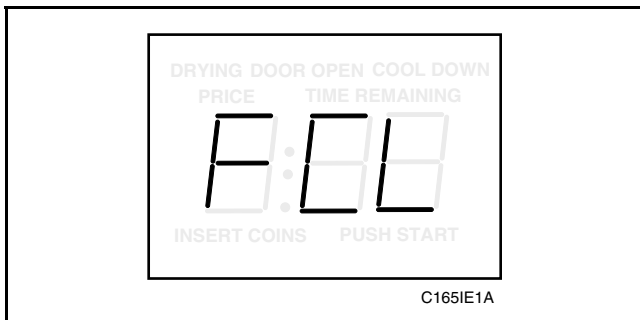

Figure 65
- Press the LOW TEMP (+) pad or the NO HEAT (-) pad to scroll through the programmable options until “FCL” appears in the VFD, *Figure 65*.